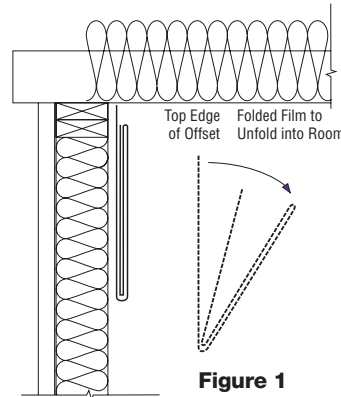

Figure 1
5. After stapling to the opposite corner, allow the folded sheet to unfold to the floor (see Figure 1).